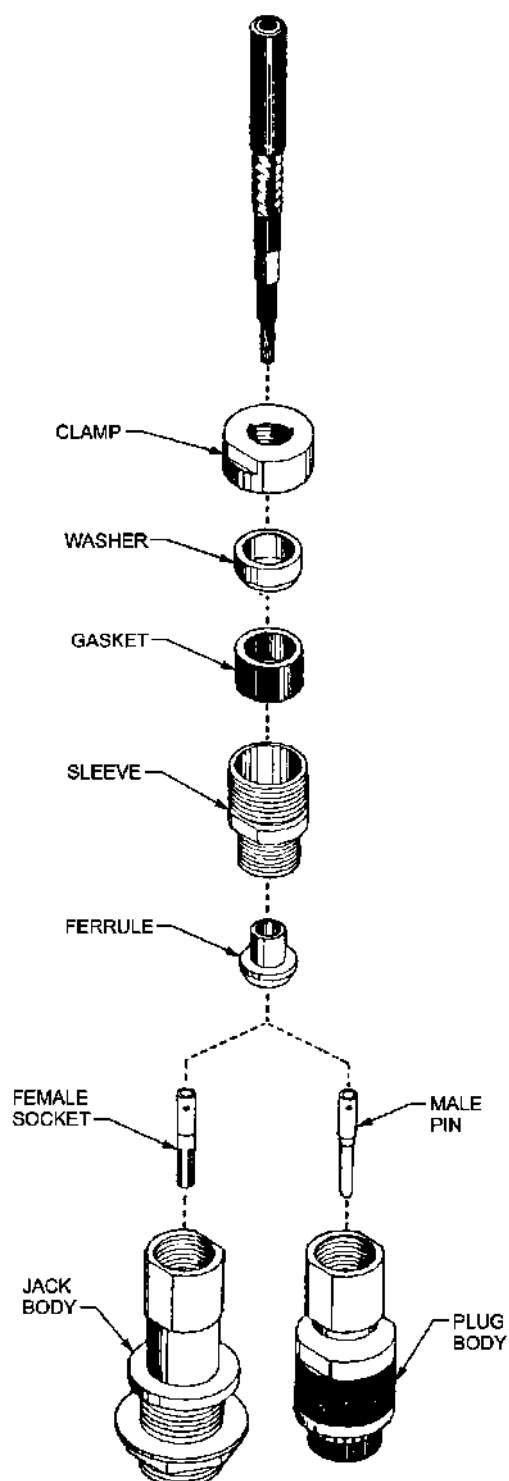

Figure 12-31 Pulse Connector - Rubber Insert
Rubber Insert Version consists of a plug or jack body assembled to coaxial cable with clamp, washer, gasket, sleeve, and ferrule. (See Figure 12-31). Plug UG-180A/U and jack UG-182A/U are typical of this version.
- a. Disassemble nut, washer, gasket, sleeve, and ferrule from plug or jack body. (See Figure 12-31.)